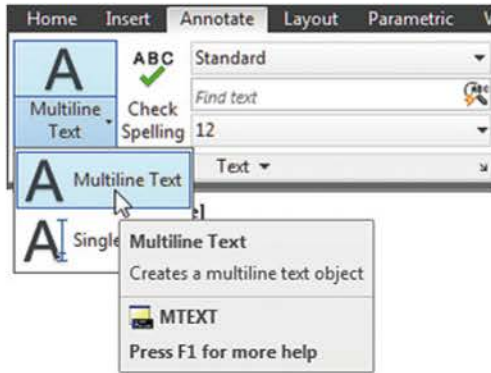

Fig. 12.26 Selecting Multiline Text . . . from the Home/Annotate panel
2. Either *left-click* on the **Multiline Text** tool icon in the **Annotate/Text** panel (Fig. 12.26) or *enter t* at the keyboard: